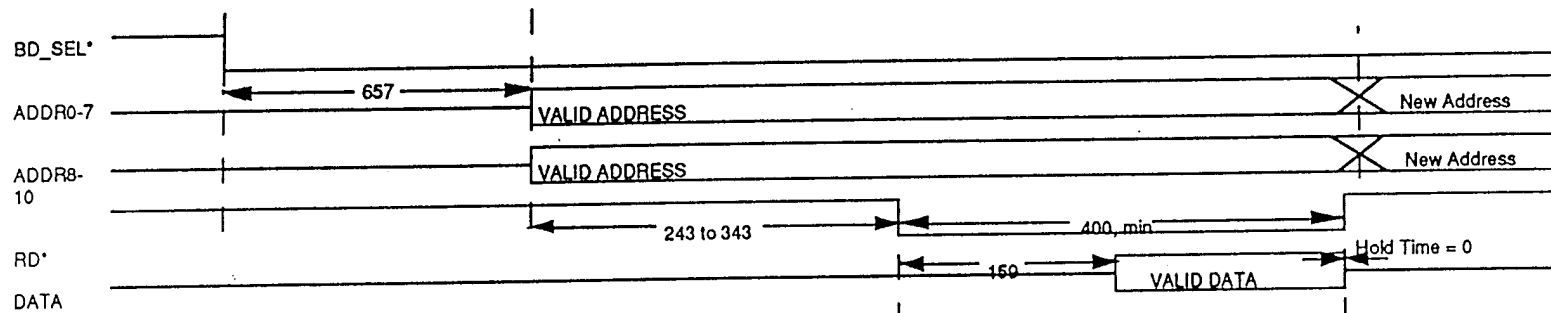

FIGURE 11 - Read Cycle Timing
3.3.1 RD\*. An 8051 external data read cycle. The 8051 is running at 12 Mhz. Read cycle timing is shown in Figure 11.